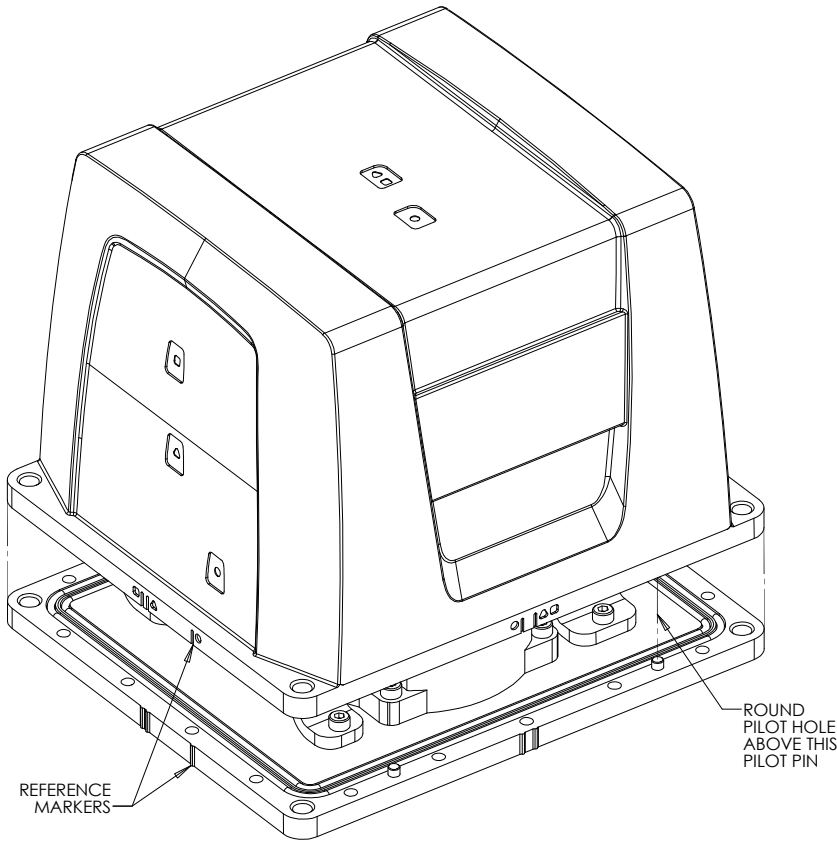

Figure 72: Installing the Enclosure Body to the Base
5. Clean the surface of the enclosure body, where it will mate with the O-rings, using isopropyl alcohol. While ensuring all wires will fit inside the bracket without being pinched, align the reference markers and pilot holes/screws of the enclosure body and base, and carefully lower the body onto the base, observing the O-rings and the alignment of corners. Start with the round pilot hole indicated in *Figure 72*, then press the assembly into place.